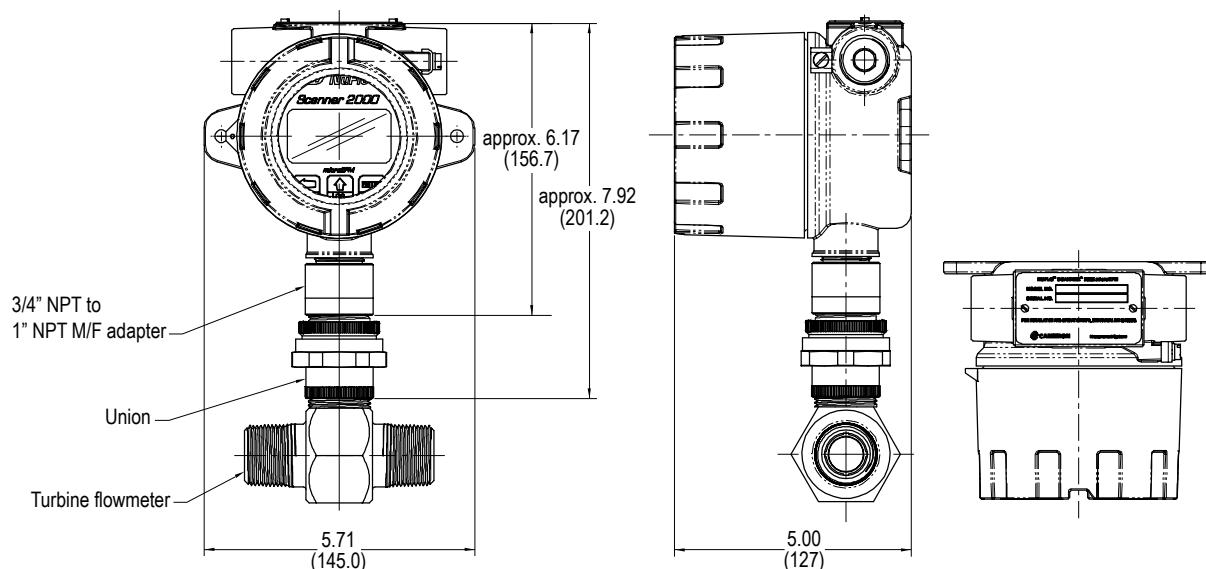

Figure 2.3—Scanner 2000 direct-mounted to a NuFlo turbine flowmeter (union and adapter are also suitable for mounting a Barton 7000 Series meter)
- Direct-mount to a turbine meter. The instrument can be mounted to a turbine meter using a pipe adapter and union connection (Figure 2.3, page 22).